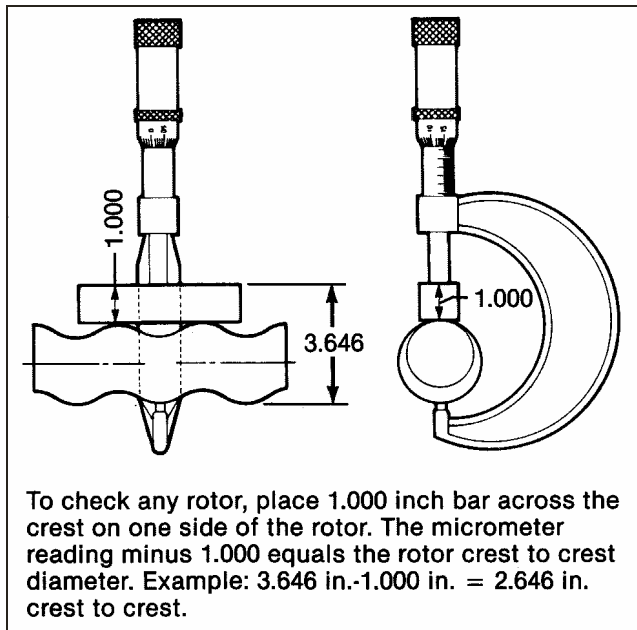

Figure 4-4. Measuring Rotor Dimension
1. To check for excessive wear of rotor (40), measure the rotor crest-to-crest diameter (See Figure 4-4) and compare with the following chart: